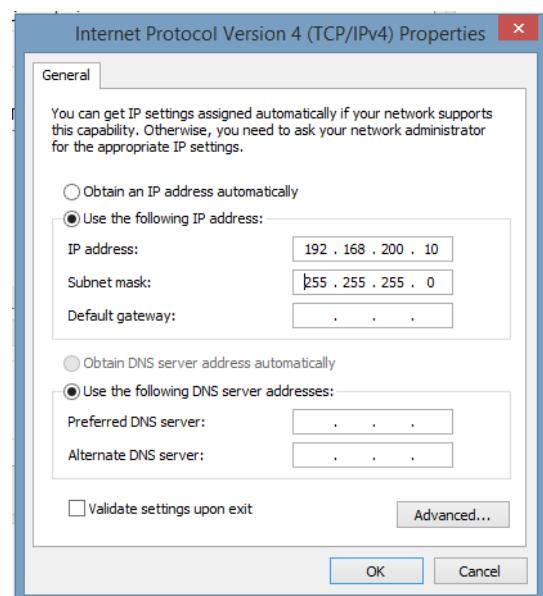

Fig. 2-14, Internet Protocol (TCP/IP) Properties Screen, Windows 10
7. The Internet Protocol (TCP/IP) Properties dialog box will open (Fig. 2-14). Select “Use the following IP address”. Enter the values as shown (i.e. IP address 192.168.100.2 and subnet mask 255.255.255.0). Record the existing IP address and subnet mask in order to later return the computer to its original state.